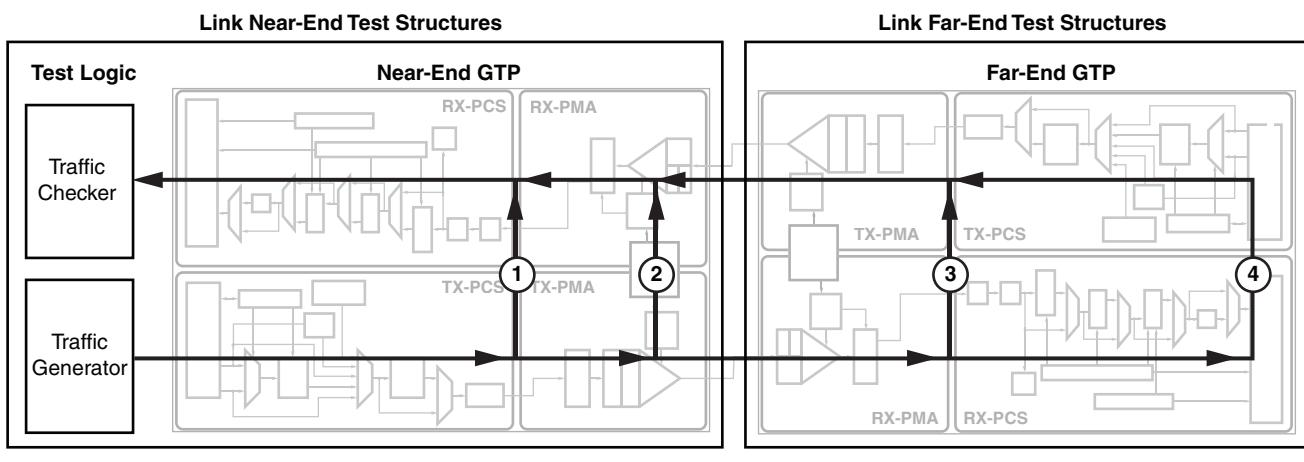

Figure 2-14: Loopback Testing Overview
Loopback modes are specialized configurations of the transceiver datapath where the traffic stream is folded back to the source. Typically, a specific traffic pattern is transmitted and then compared to check for errors. Figure 2-14 illustrates a loopback test configuration with four different loopback modes.
- Near-End PCS Loopback (path 1 in Figure 2-14)
- Near-End PMA Loopback (path 2 in Figure 2-14)
- Far-End PMA Loopback (path 3 in Figure 2-14)
- Far-End PCS Loopback (path 4 in Figure 2-14)